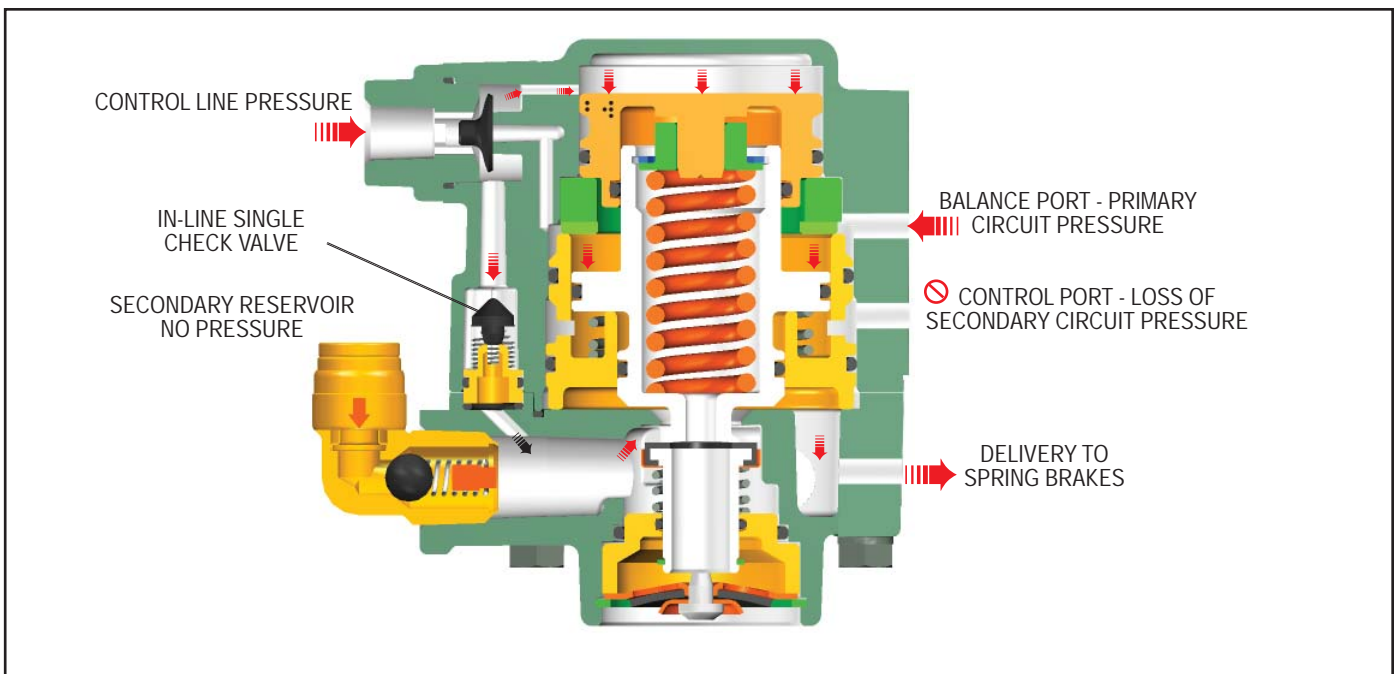

FIGURE 10 - SERVICE APPLICATION LOSS OF SECONDARY CIRCUIT
**SERVICE APPLICATION WITH LOSS OF AIR IN SECONDARY CIRCUIT (FIGURE 10)**